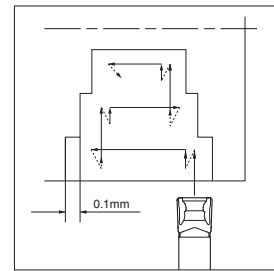

Fig. 3
- 1) When widening the groove width (Refer to Fig.3), apply the "Step Turning."